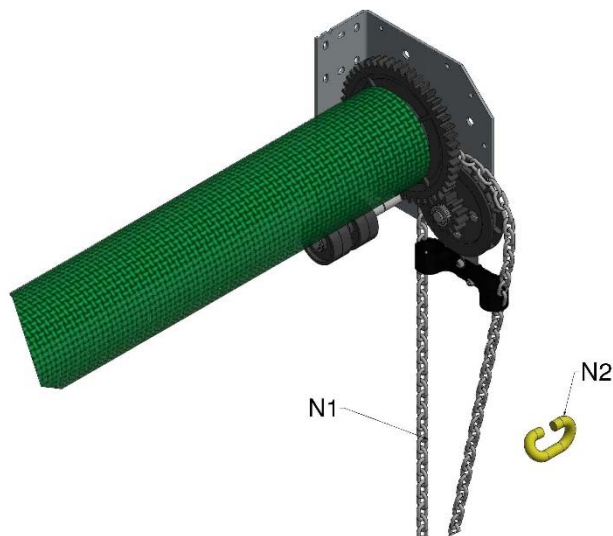

Figure 8, Installing Operating Chain
7. Feed the operating chain (N1) around the chain wheel, through the chain guide and trim to length if required (Figure 8). Make chain into a continuous loop by joining the two ends with the Joining Link (N2). After closing, file away any sharp edges to ensure the chain does not injure operators; it is unnecessary to weld the link shut.